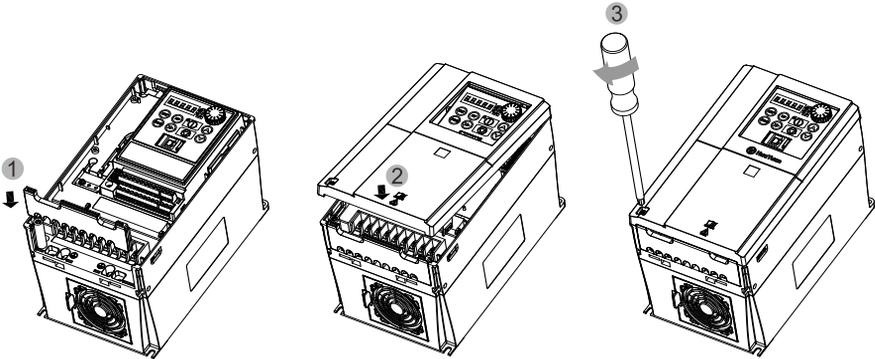

Fig. 2-6 Installation of keyboard
B. Installation of keyboard: As shown in Figure 2-6, install the wire guard into the corresponding junction of the middle shell along the direction ①, and then press the buckle on the side of the cover along the direction ② until a "click" is heard, and finally use a Phillips screwdriver along the direction ③ Turn the screw clockwise.